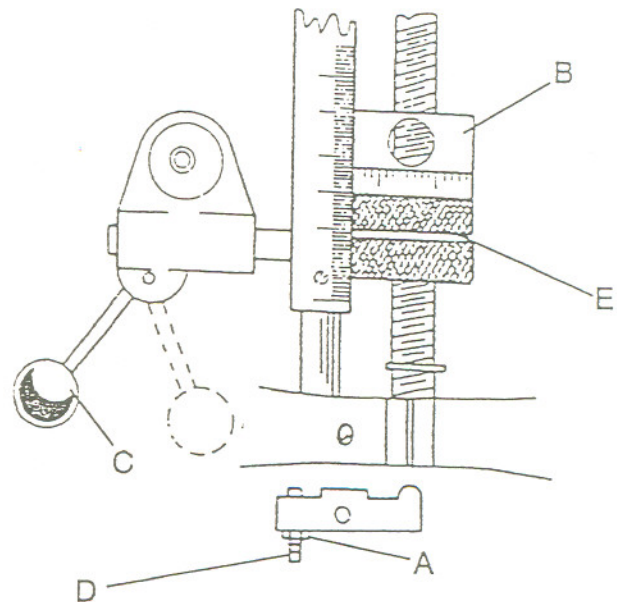

Fig. 9
1. Loosen locknut (A, Fig. 9).
2. Engage trip handle (C, Fig. 9) by pulling away from head assembly.
3. Adjust micro nuts (E, Fig. 9) against quill stop (B, Fig. 9)
4. Slowly turn adjusting screw (D, Fig. 9 ) until lever (C, Fig. 9) trips.
5. Tighten locknut (A, Fig. 9)